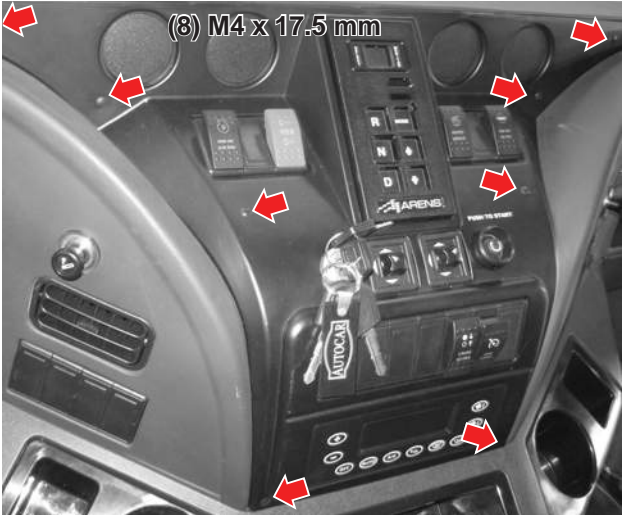

Figure 8-1
1. Remove the eight screw caps and set aside for reinstallation (see Figure 8-1).
2. Remove the eight M4 screws and set aside for reinstallation (see Figure 8-1).